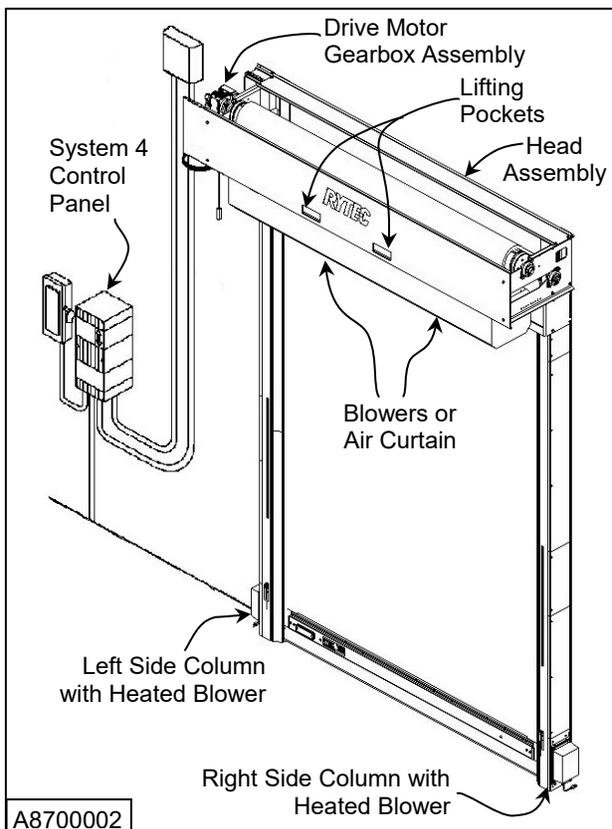

Figure 59
3. To ensure the correct parts are shipped, please include the serial number of your door with the order. The serial number is located on the door in several locations per the "DOOR SERIAL NUMBER(S)" section (See page 1). All these serial numbers should match. (See Figure 59)